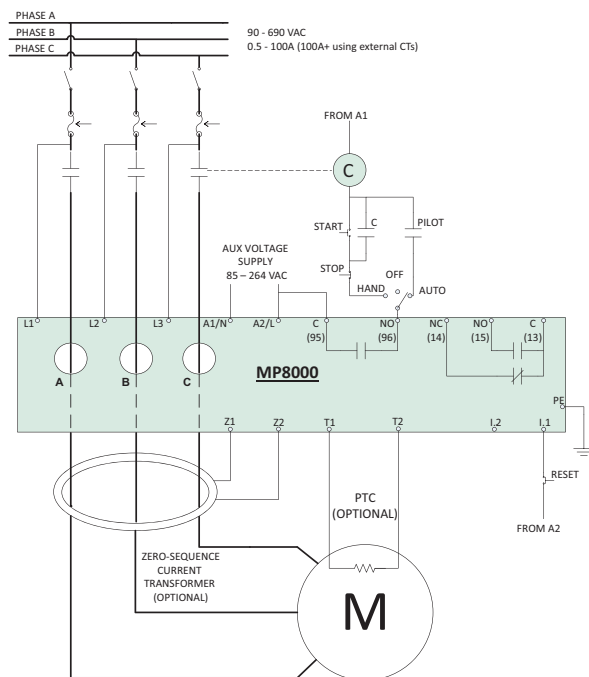

Figure 10
3. Provide control power to power the MP8000 with 85-264 VAC and connect to terminals A1 and A2 per the diagrams on page 2. (See Figures 10 and 11)